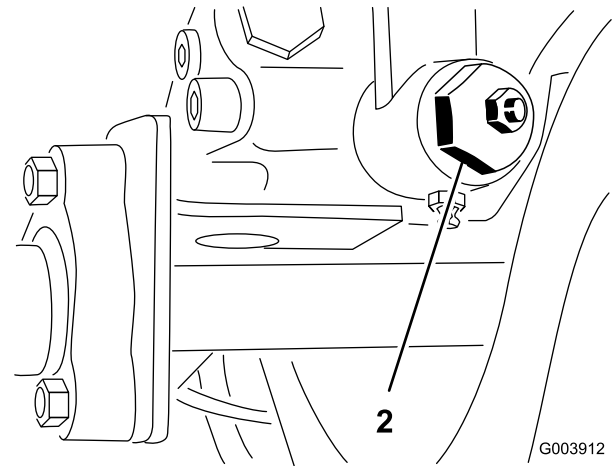

Figure 61
3. Under the right side of the machine, loosen the locknut on the traction adjustment cam (Figure 61).